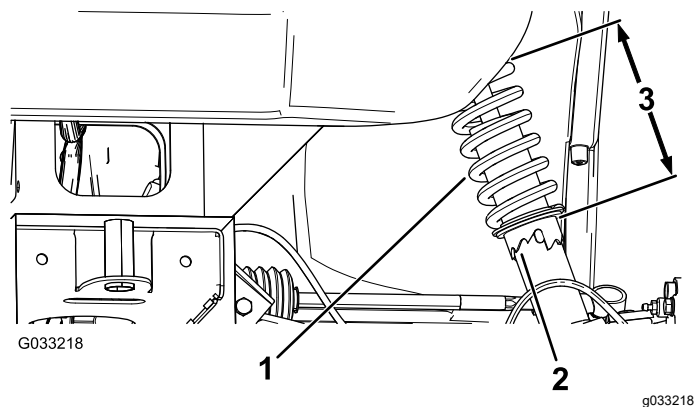

Figure 59
2. If the wheel camber is out of alignment, use the spanner wrench to rotate the collar on the shock absorber to align the wheel (Figure 59).